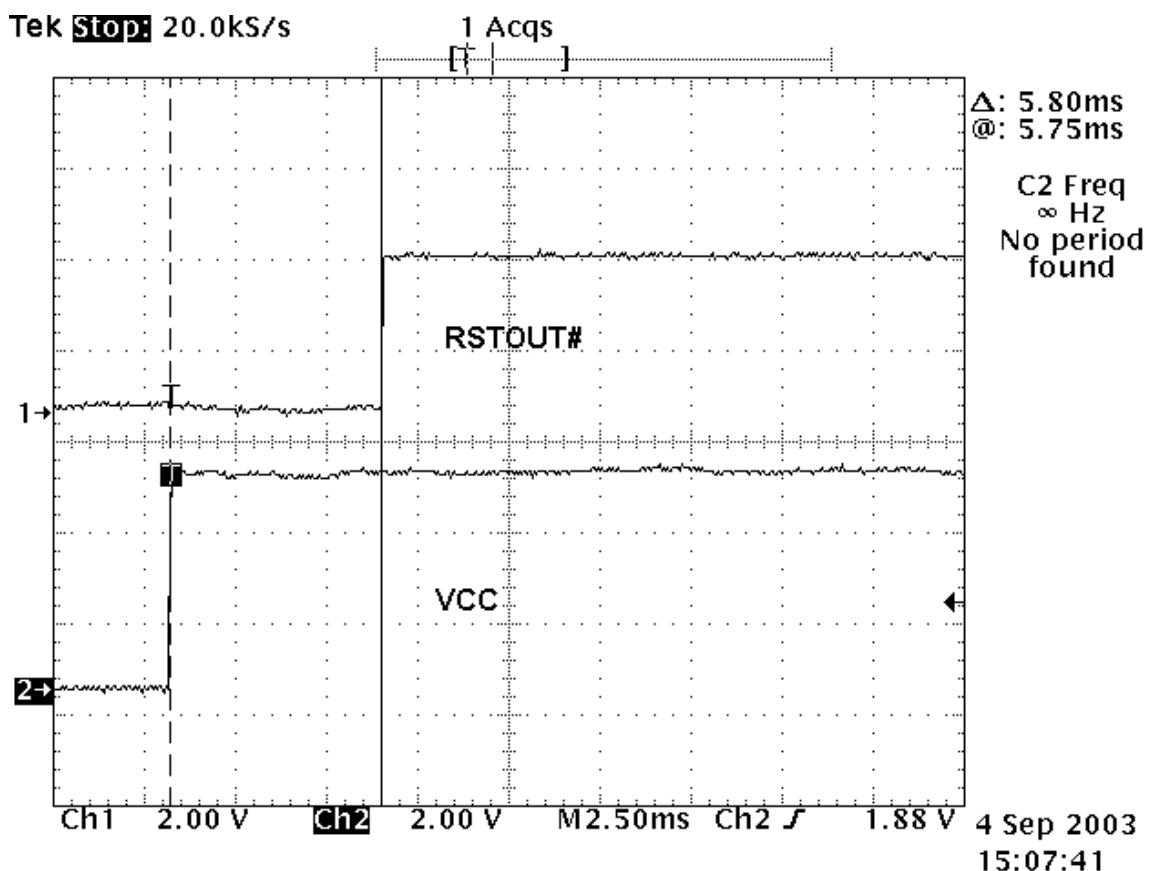

Figure 2. - RSTOUT# will go high 5.6 milliseconds after Vcc is applied.
**1. Pin 4, RESET# being held low or floating.** While RESET# is held low, the RSTOUT# signal will drive low to prevent the 1.5K ohm pull up resistor on USBDP from going high. This 1.5 K ohm pull up resistor on USBDP to the 3.3 Volts on RSTOUT# is used by the system to detect that a device is present. The system can detect that a high speed device has been connected by looking for USBDP being pulled high (USBDM is pulled high for a low speed device). If RESET# is tied to VCC then RSTOUT# will go high when the oscillator has become stable. You can tell when the chip has come out of reset as RTSOUT# will go high (3.0 - 3.6V). The chip will continue to stay in reset for 5.6 milliseconds after RSTOUT# goes high. This is shown in Figure 2.